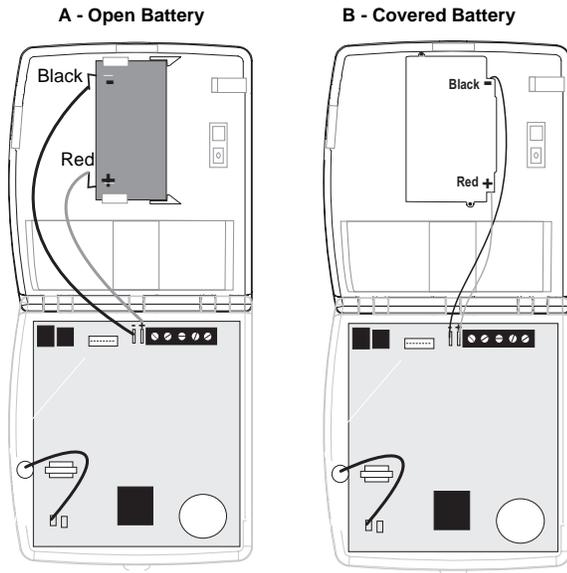

Figure 12. Connecting the Battery Leads to the Battery and Panel Terminals.
3. Connect the red and black battery leads (included with panel) to the battery and panel terminals (see Figure 12 A - Open Battery / B - Covered Battery).
Connecting the Battery Leads to the Battery and Panel Terminals (see Figure 12).